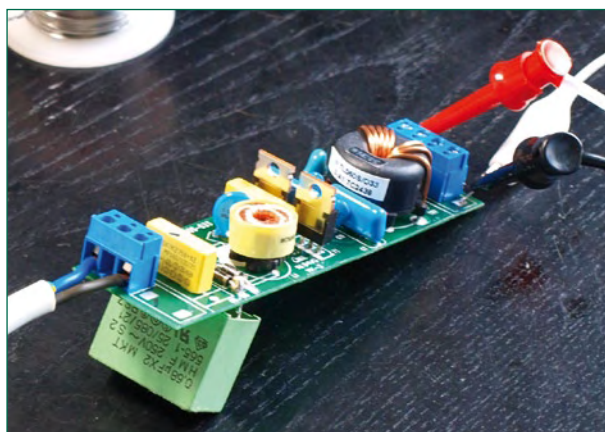
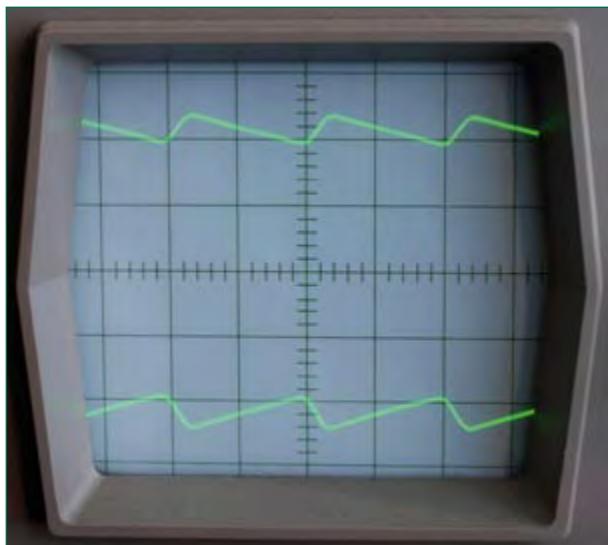

Figure 6. In this experiment a plastic foil capacitor has been soldered in cascade with the input rectifier to raise the filter capacitance value.
Figure 7. Improved smoothing on the input side lowers the amount of 100 Hz modulation on the output.
**Figure 6** shows a temporary lash-up with a foil capacitor soldered on the rear side of the PCB, raising the capacity on the input side of the bridge rectifier to a good 700 nF. You can see how effective this is by looking at the output in **Figure 7**, where we see a signal with the 100 Hz component reduced visibly. We can improve on this: up to 50 W a high-voltage electrolytic rated 100 to 220  $\mu\text{F}/385\text{ V}$  will be fine. At 100 W and more we would need to raise the capacity correspondingly. As can be seen with our modified electronic transformer in **Figure 8**, such a hefty capacitor